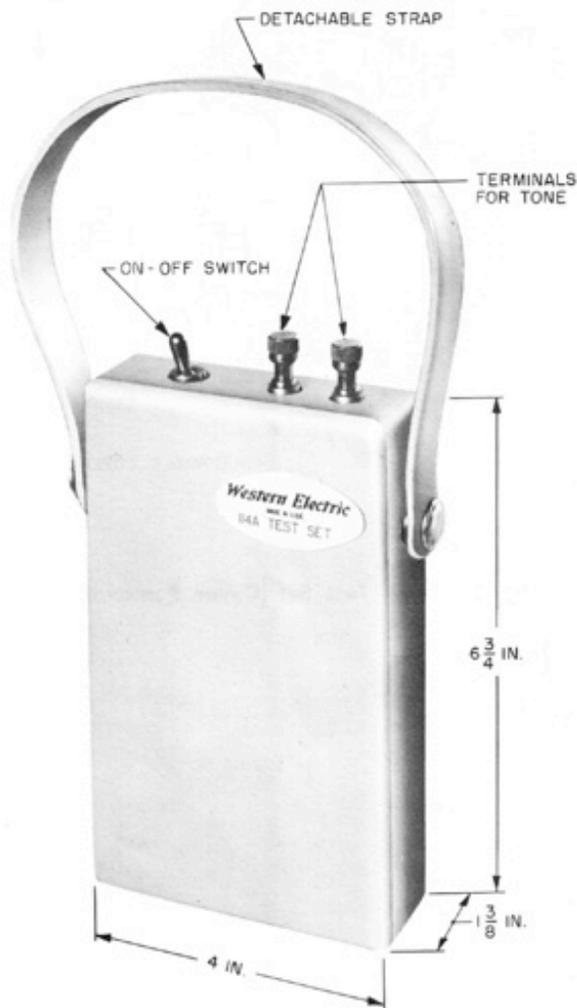
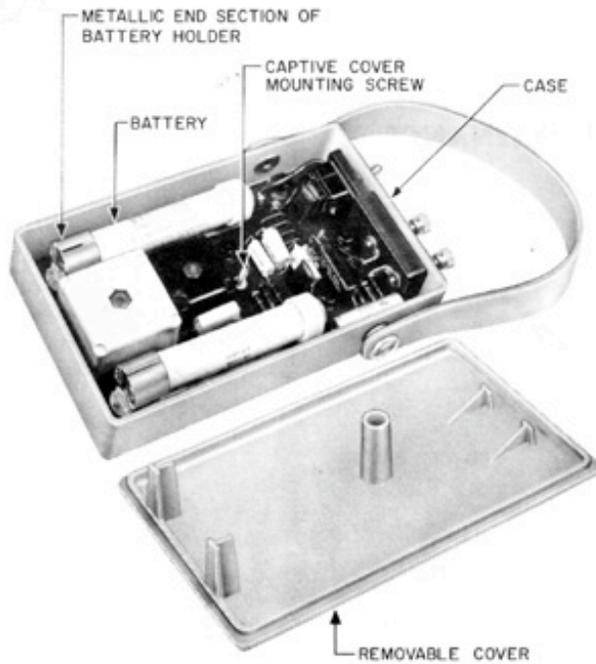

Fig. 1 — 114A Test Set (Front View)
Fig. 2 — 114A Test Set (Cover Removed)
**2.01** The transistorized 114A Test Set shown in Fig. 1 is powered by two 6.5 volt mercury batteries. With batteries, it weighs about 1-1/4 pounds. A battery life of approximately 200 hours can be expected under normal conditions.
**2.02** The test set has a plastic case with a removable cover and detachable strap as shown in Fig. 1 and Fig. 2. The cover is secured to the case by a captive screw. The two output terminals and ON-OFF switch are connected inside the case to a printed network which mounts the two mercury batteries and other circuit components.
**3.03** To replace the batteries, loosen the captive cover mounting screw in the center of the case (see Fig. 2) and remove the cover. Then push the metallic end section of the battery holder in toward the battery and remove the battery and holder. Place the new battery in the holder, then remount the holder. Replace the cover and securely tighten the captive cover mounting screw.